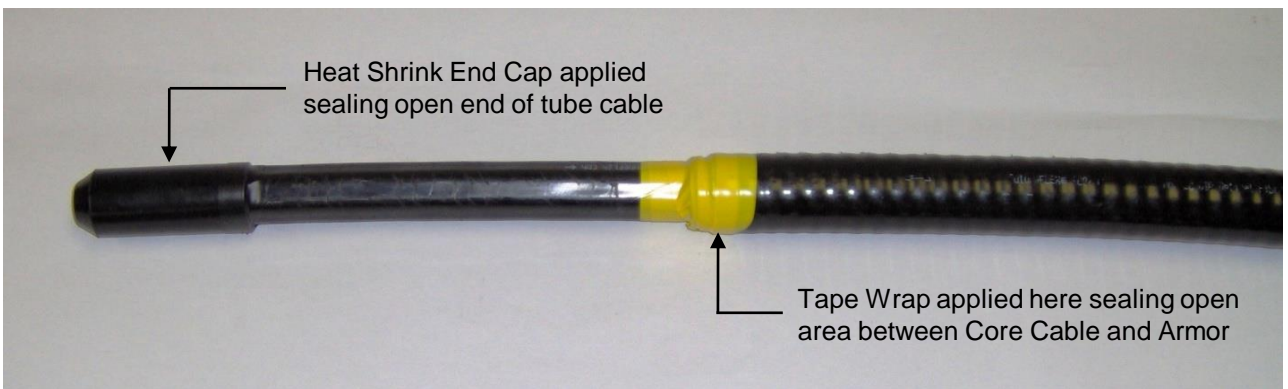

Figure 9
6.7 Apply a tape wrap around the end of the armor and over the core cable to keep water, mud, etc. from getting under the armor during the pull-in operation. **See Fig. 9.**